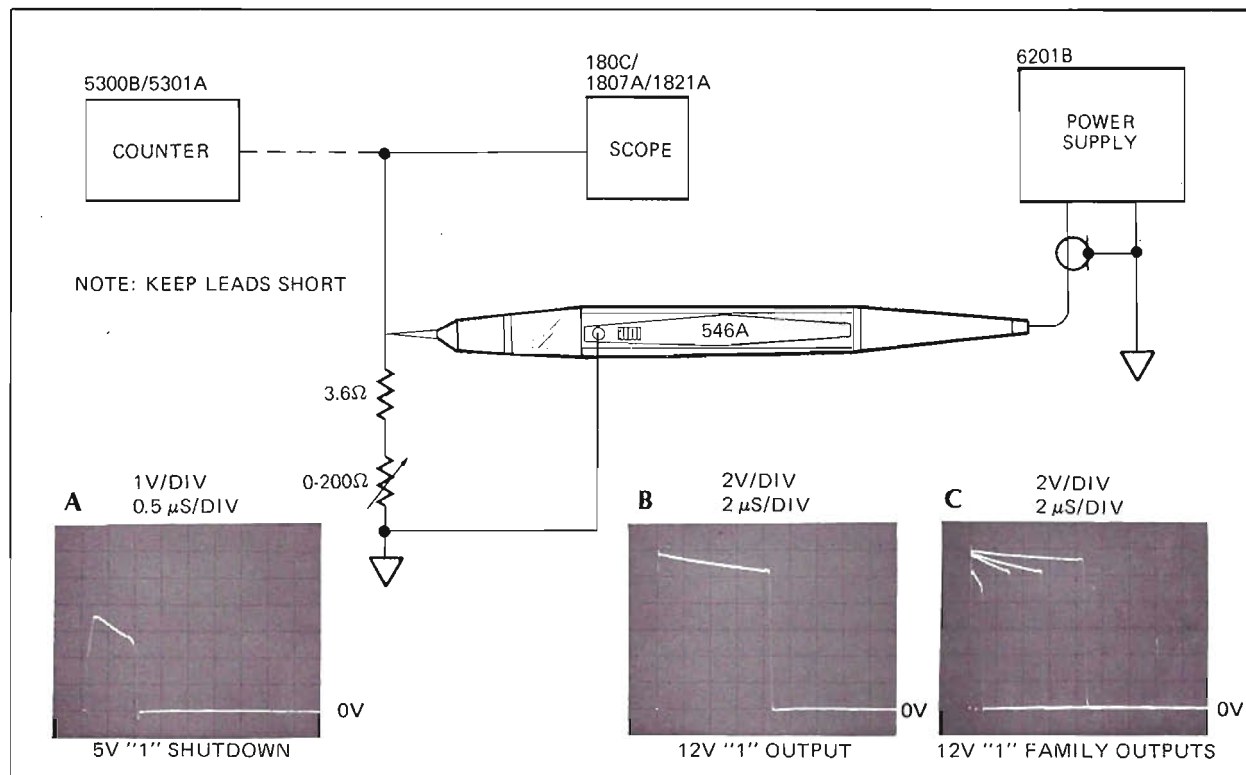

Figure 13. "1" Output Pulse Test Setup
Connect the equipment as shown in *Figure 13* (except omit the counter) and proceed as follows:
- c. Press Pulser pushbutton and latch while observing oscilloscope for waveform A, *Figure 13*.
- d. Set power supply to +12V and variable resistor to 200 ohms while observing oscilloscope for waveform B, *Figure 13*.
Connect the counter in the test setup shown in *Figure 13* and proceed as follows: